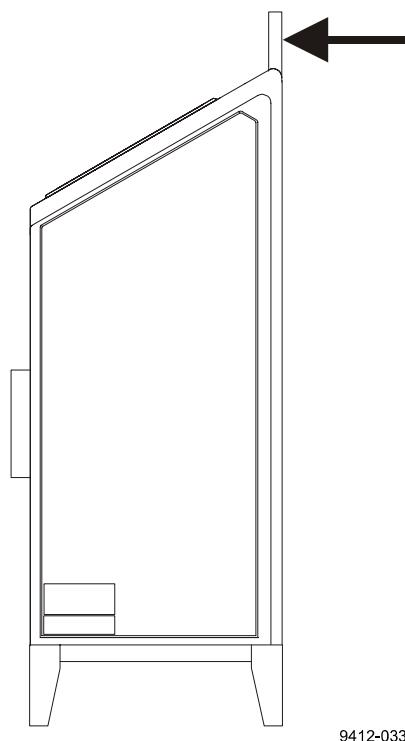

Figure 2 Measurement Unit Handle
- Use the measurement unit handle for lifting and carrying. See Figure 2 on page 22.